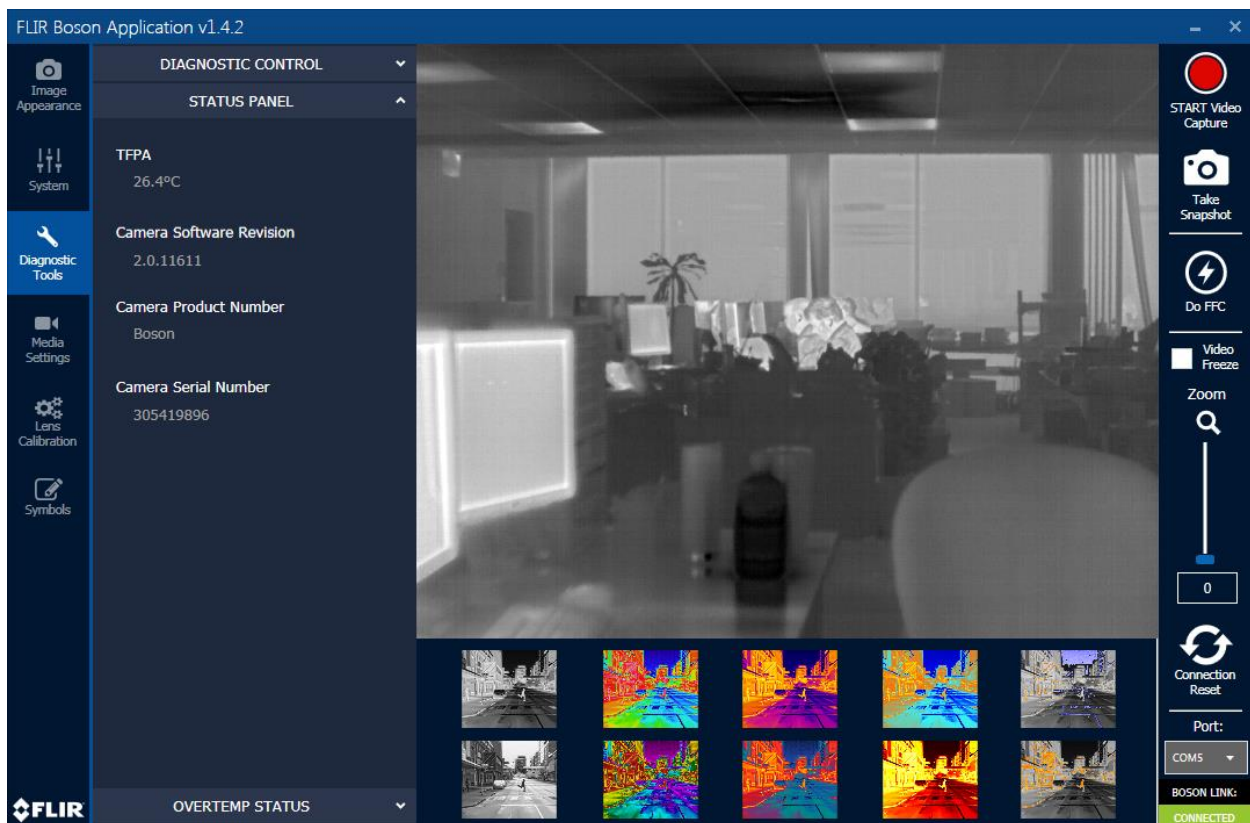

Figure 8. Camera Software Revision
- Boson 320 with Release 2 software (2.0.11863 or later) or Boson 640. It is possible to update the software on Boson 320 Release 1 cameras to enable use of this feature. Refer to the separate App Note entitled "FLIR Boson Release 2.0 Update Procedure". If the version number of the currently-installed software is in doubt, it can be checked via the "Status Panel" pane on the "Diagnostic Tools" tab, as shown in Figure 8.
- Boson 320 with Release 2 software (2.0.11863 or later) or Boson 640. It is possible to update the software on Boson 320 Release 1 cameras to enable use of this feature. Refer to the separate App Note entitled “FLIR Boson Release 2.0 Update Procedure”. If the version number of the currently-installed software is in doubt, it can be checked via the “Status Panel” pane on the “Diagnostic Tools” tab, as shown in Figure 8.